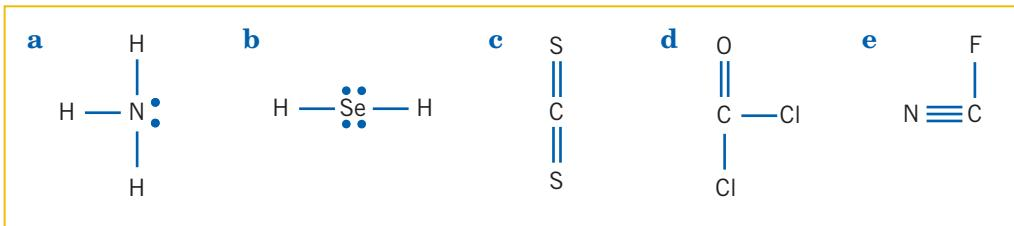

Figure 3.6
- 4 Line diagrams of various molecules are depicted in Figure 3.6 (these diagrams do not necessarily indicate the correct bond angles). For each of these molecules describe the correct shape and provide an estimate of the bond angle(s).